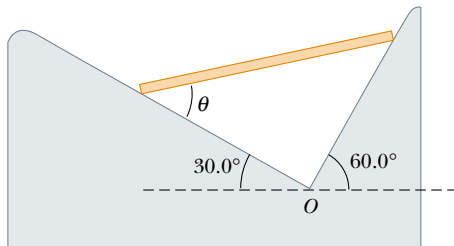

Figure P12.55
55. A uniform rod of weight F_g and length L is supported at its ends by a frictionless trough, as shown in Figure P12.55. (a) Show that the center of gravity of the rod is directly over point O when the rod is in equilibrium. (b) Determine the equilibrium value of the angle θ .